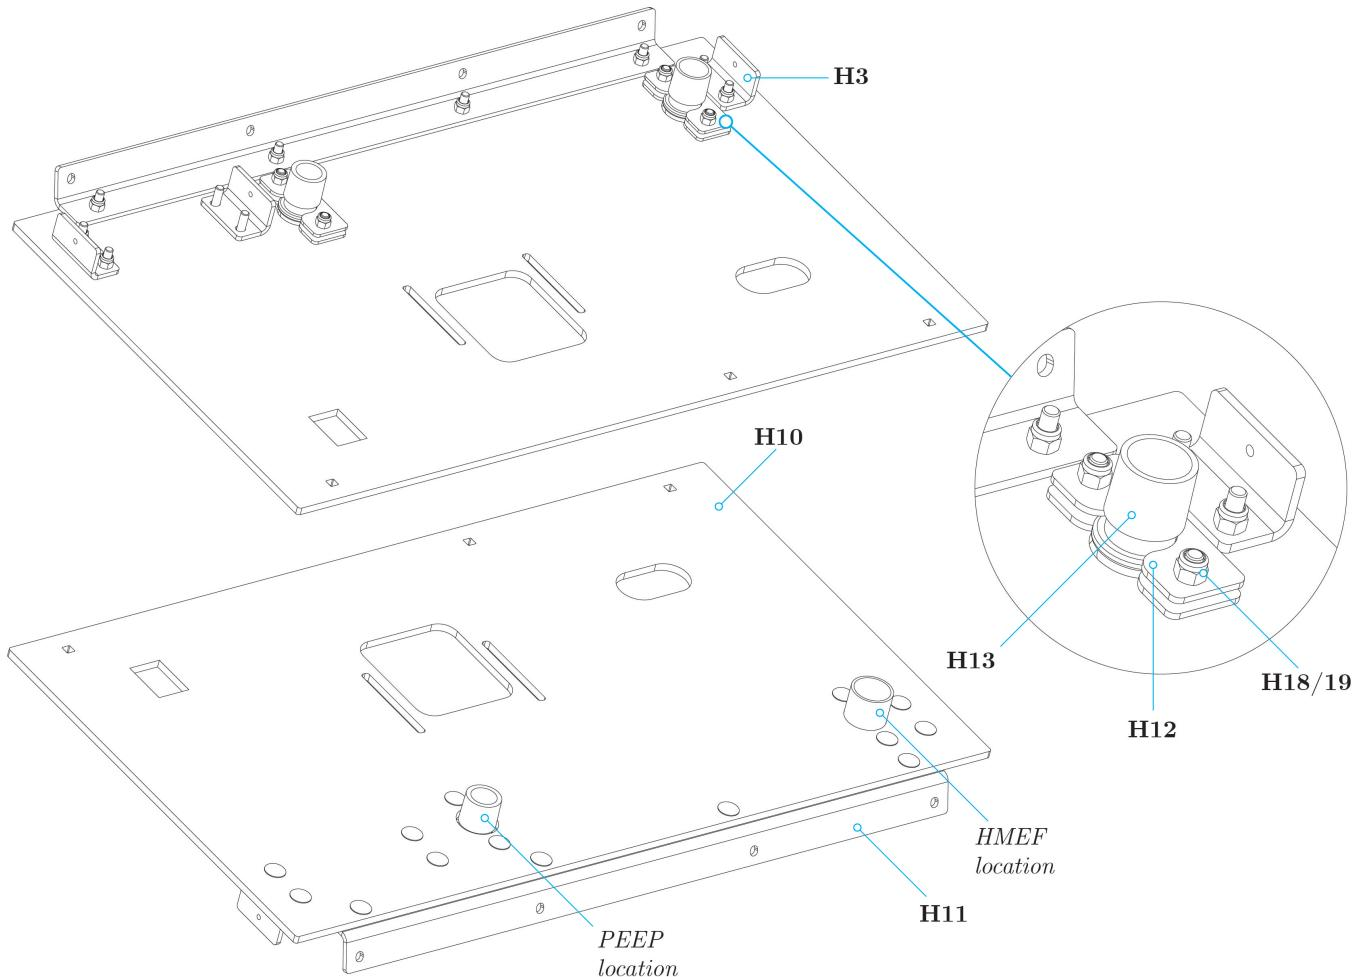

Figure 14: Overview of the Front Plate Assembly
1. Orientate the H10 Front Plate as illustrated in figure 14.
2. Position the H11 Connector Blunt and the 3x H3 Connectors Small onto the plate. Make sure their orientation resembles figure 14. Fasten the connectors with 10x ?? carriage bolts and nuts.
4. Place the tube connectors through the two round holes in the Front Plate as illustrated in figure 14 and fixate their Connector Brackets to the Front Plate with 4x H18 carriage bolts and H19 nuts.